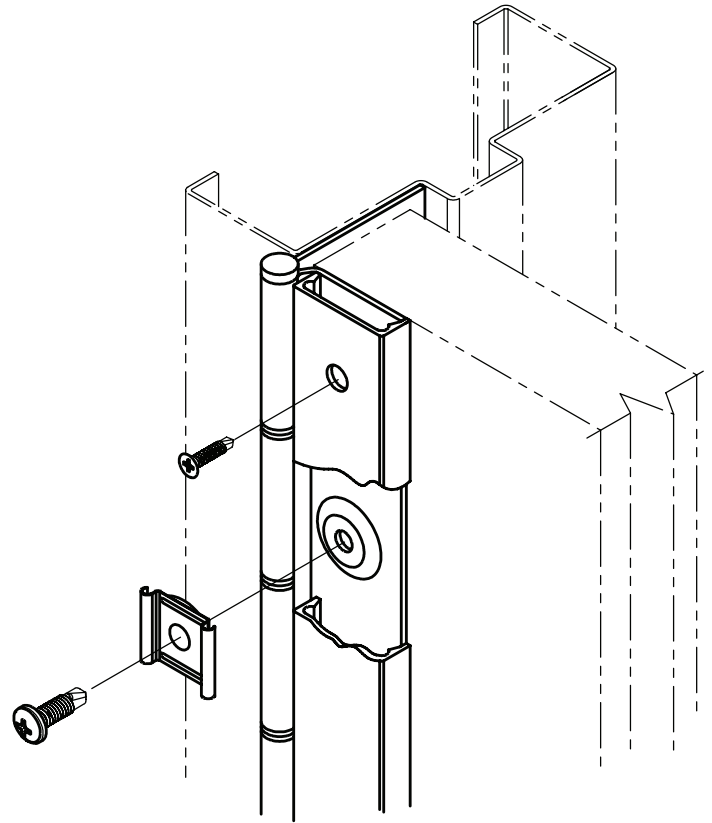

FIG 2: INSTALLATION (EXPLODED VIEW)
- F. Install at least five cover clips by passing a screw through clip, hinge leaf and door (Fig 2).